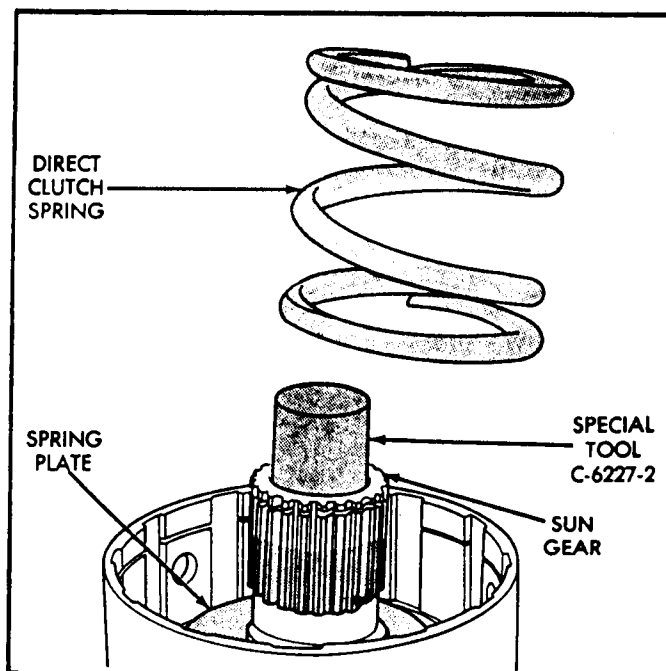

Figure 13
18. Align the splines in hubs of planetary carrier and overrunning clutch using Tool 6227-2, as shown in Figure 13.
19. Install direct clutch spring down on the spring plate (See Figure 13).